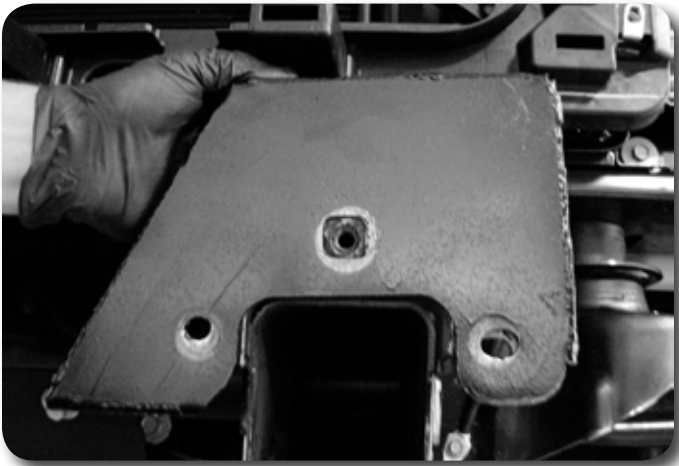

Figure 16
26. Install the new front bumper brackets with the provided 7/16" x 1" bolts and flange lock nuts on each side hole. Using the witness marks of the square hole from the factory bracket, line up the bracket and tighten the 7/16" bolts by hand to hold the position of the bracket. **Figure 16** Re-install the factory bolt at the center location and tighten all hardware.